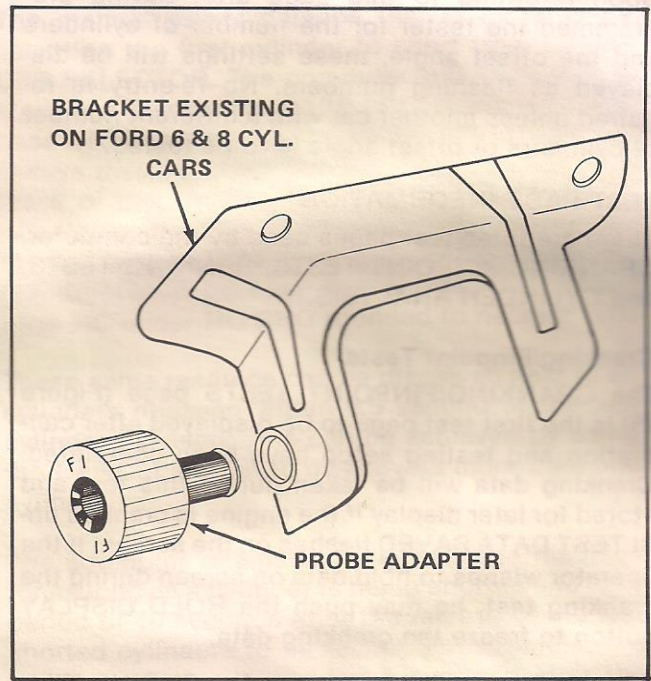

FIGURE 13—Adapter for Ford cars except 2300 cc engine.
- c. Ford—(except 2300 cc engine) insert special Ford Probe Mounting Adapter F-1 in timing bracket on timing chain cover (V-8, V-6 and L-6 engines so equipped). See Figure 13.